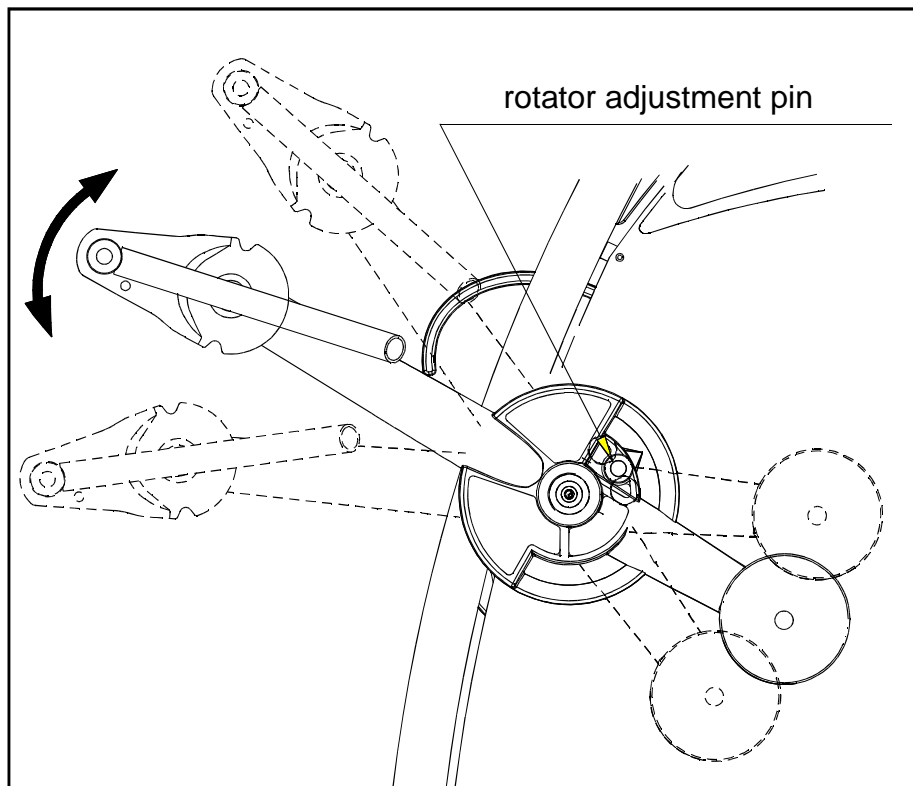

Fig.1
1. Use the rotator adjustment pin to establish a suitable initial position for the user as shown in Fig.1.